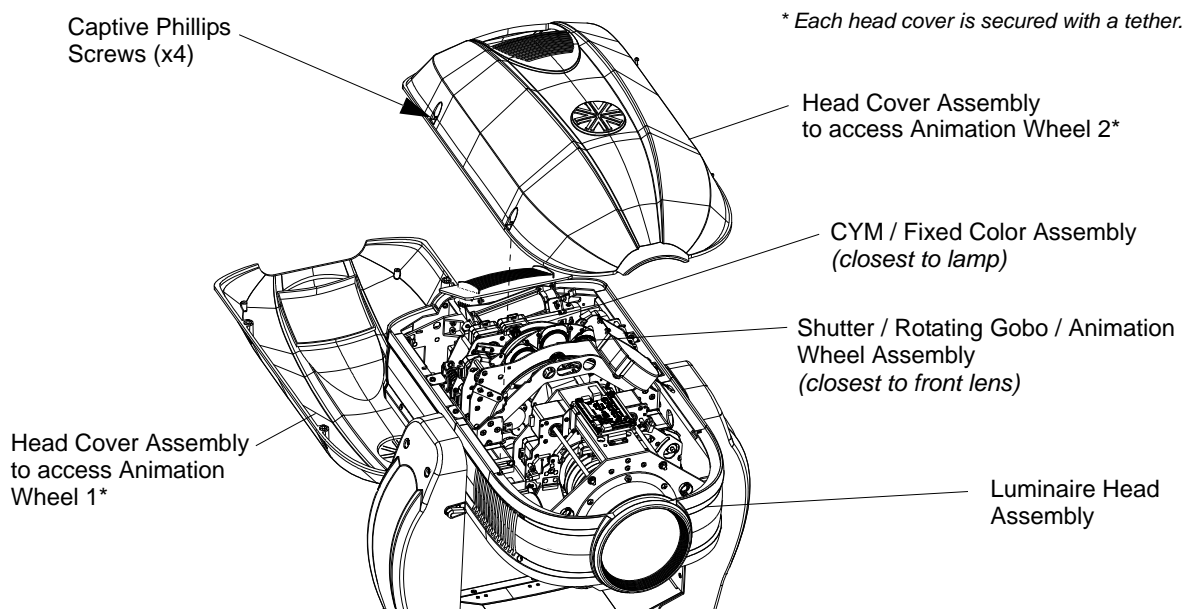

Figure A-10: Replacing Animation Wheels
- a. For Animation Wheel 1 (closest to the rear of luminaire), remove head cover assembly as indicated in Figure A-10 by loosening four captive screws and lifting cover away from luminaire head. Note, head cover is attached by a safety tether.
- b. For Animation Wheel 2 (closest to the front of luminaire), remove head cover assembly as indicated in Figure A-10 by loosening four captive screws and lifting cover away from luminaire head. Note, head cover is attached by a safety tether.